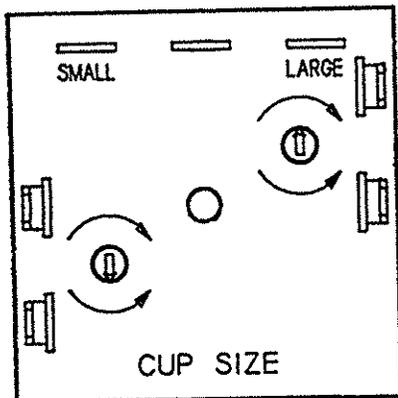

Fig. 4
2. **PORTION CONTROL ADJUSTMENT** - Adjustments in drink size are made by simply turning dials on the Universal Timer (see Fig. 4).